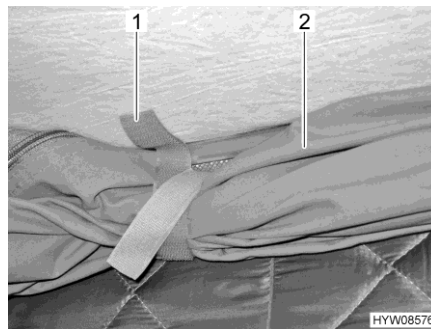

Fig. 48 Retaining clips
- Undo the retaining clips (Fig. 48,1) on the rolled-up canvas (Fig. 48,2).
- Roll up the canvas (Fig. 48,2) and secure with the retaining clips (Fig. 48,1).